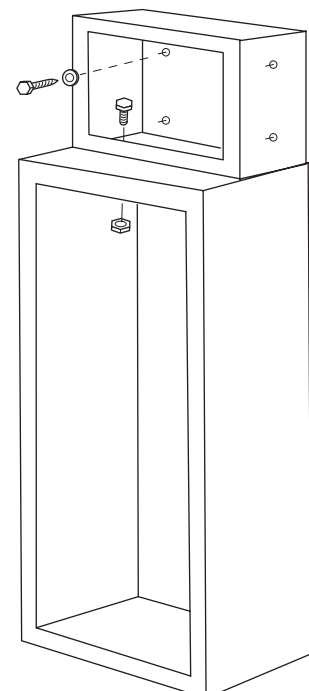

Figure 10
Place the GCB-500-5 on top and assemble with (2) 1/4-20 nuts and bolts. Do not tighten bolts. (See Figure 10)
Drill (4) 3/16" pilot holes into the wall studs and secure the GCB-500-5 cabinet to the wall using (2) lag bolts and washers. (See Figure 10)